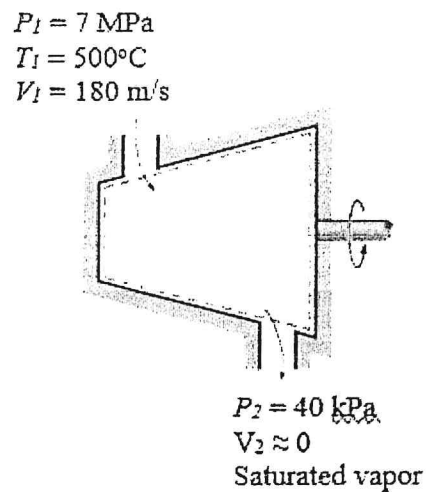

Figure 1: Turbine
- (a) Steam flows steadily into a turbine with a mass flow rate of 20000 kg/h. The inlet and the exit conditions are given in Figure 1. If the power generated by the turbine is 3 MW, determine the rate of heat loss from the steam, in MW.
Refer Below - Figure1 : Turbine .